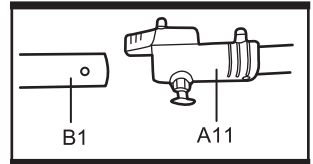

Fig. 3a
- a). Align the shaft(B1) with the clamp (A11) so that the hole in the shaft(B1) is orientated to the locking pin. (See Fig. 3a)